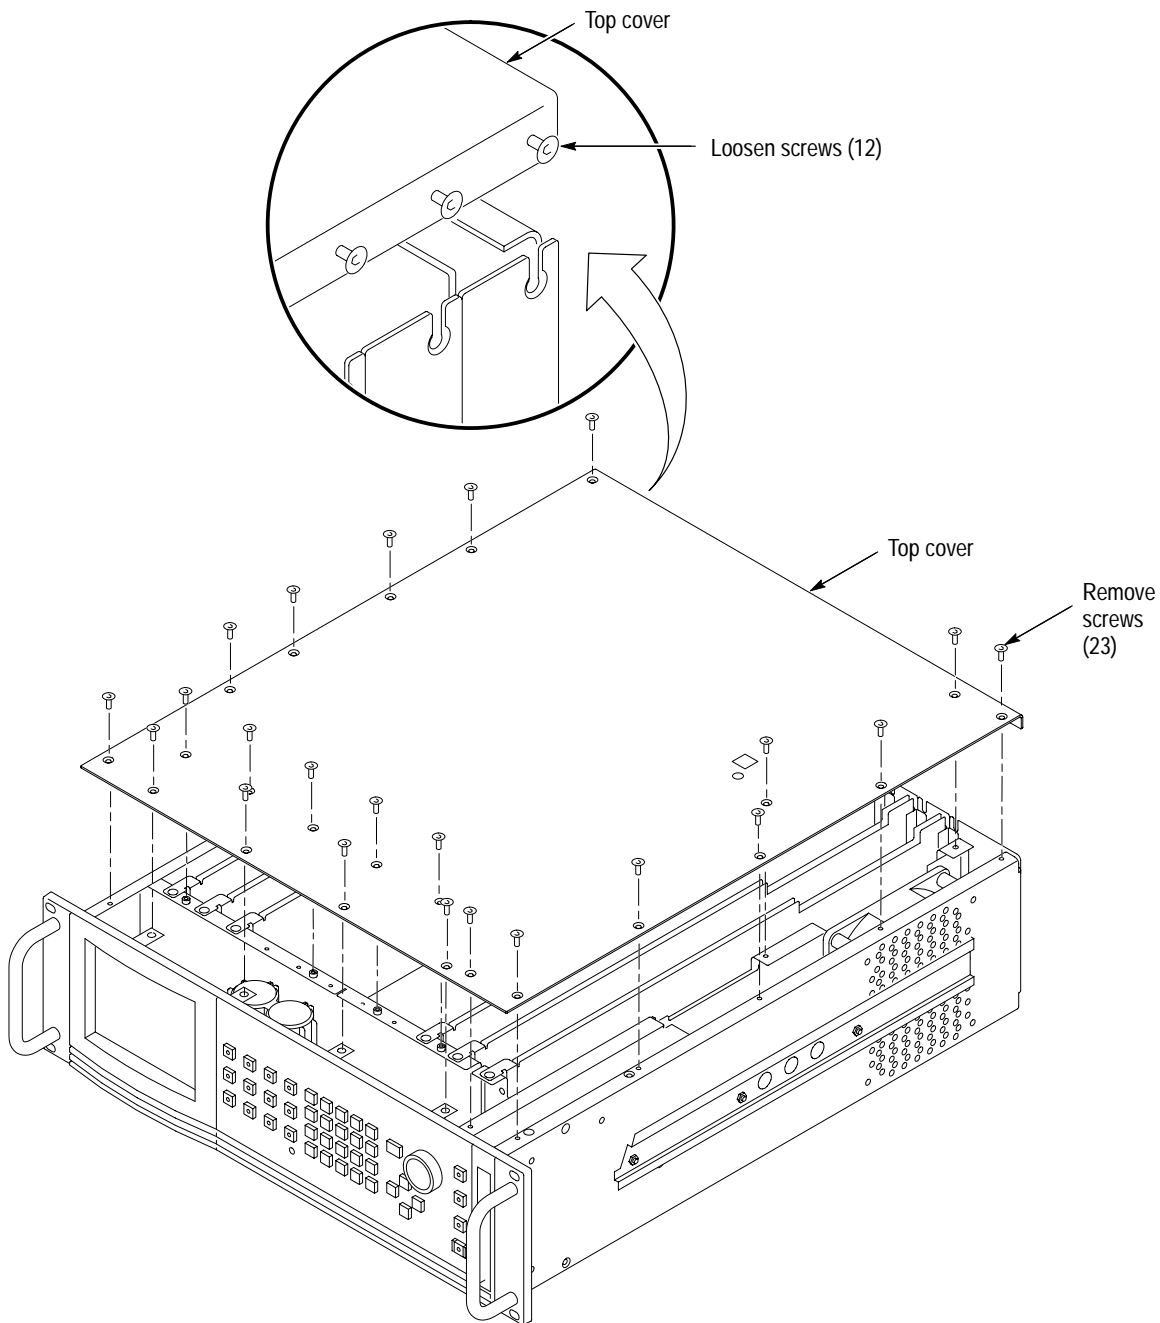

Figure D-2: Top cover removal
4. Refer to Figure D-2 and remove or loosen all screws to remove the top cover.
3. Remove all top-cover screws and remove the top cover. See Figure D-2 on page D-3.